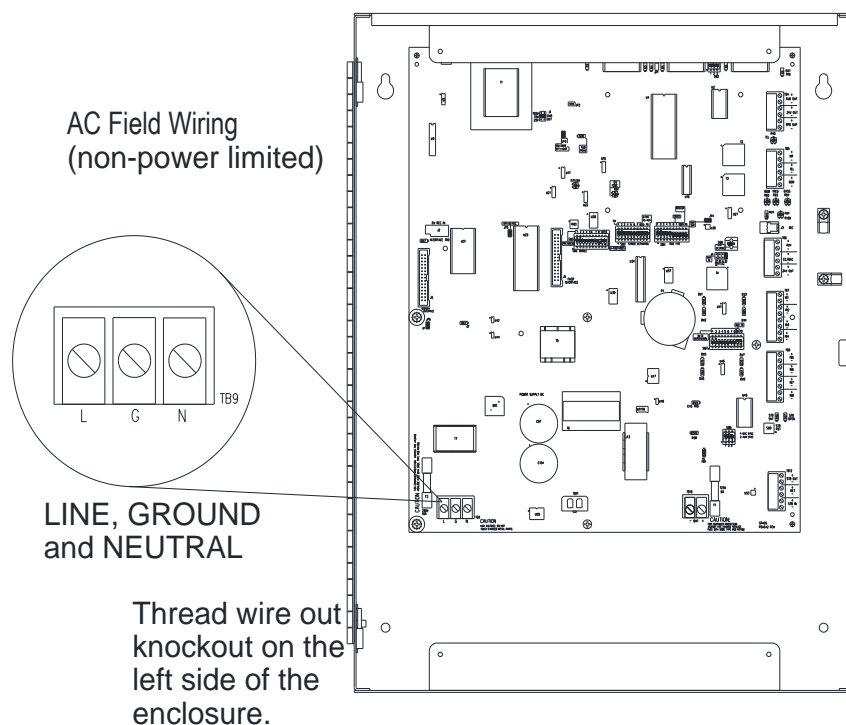

Figure 22 VAC Input Connection
1. Refer to Figure 22 and connect the line and neutral input wiring to the L (Line) and N (Neutral) terminals on the terminal block TB9 (see Figure 4 for location) in the lower left corner of the chassis.